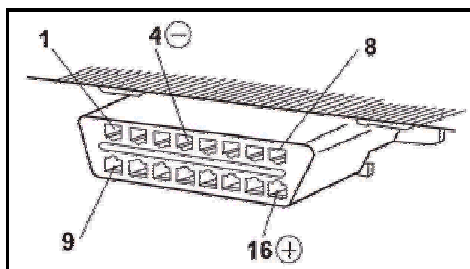

Fig.3.28
BMW 16-pin diagnostic socket is located in the cab under the instrument cluster at the left side. See Fig.3.28 for its outline.
2. Pin definition for 16-pin diagnostic socket (Fig.3.28)